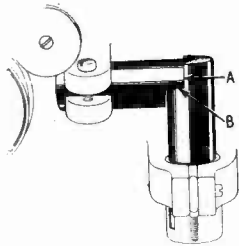

Fig. 9 - EXCITER LAMP SOCKET ADJUSTMENT.
3. Remove the optical system and exciter lamp and insert the steel studs (see Figure 9) in the optical system holder and exciter lamp socket.